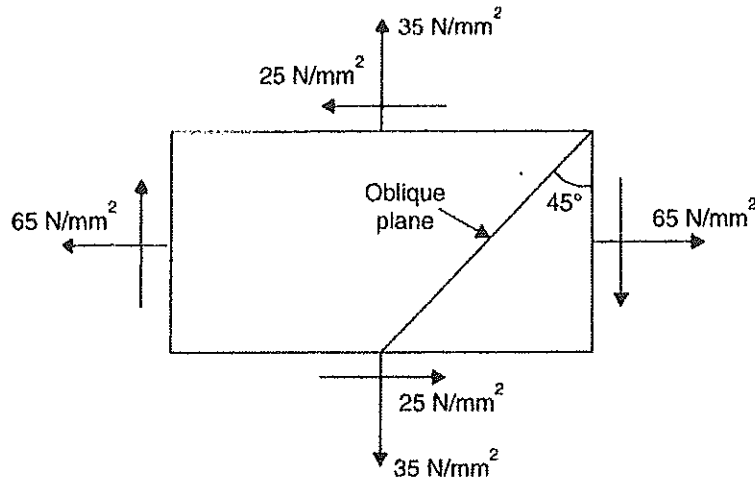

Figure Q3
- (b) A point in a strained material is subjected to stresses shown in Figure Q3. Using Mohr's circle method, determine the normal and tangential stresses across the oblique plane. Check the answer analytically.